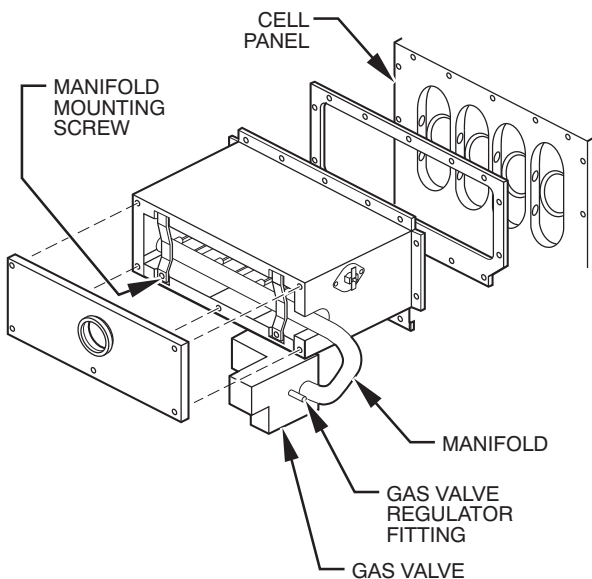

Fig. 6 - Burner Box Assembly
9. Remove screws that secure manifold to burner box. (See Fig. 6.)
10. Remove screws attaching burner box to cell panel. (See Fig. 6).
NOTE: Be sure burner box gasket is installed between burner box and cell panel. (See Fig. 6.) If gasket is damaged, replace it.